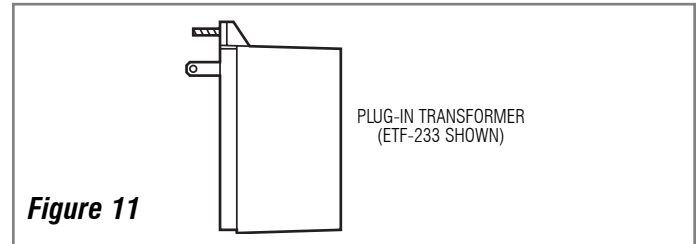

Figure 11
Step 9 — Connect Transformer (Figures 11 and 12)